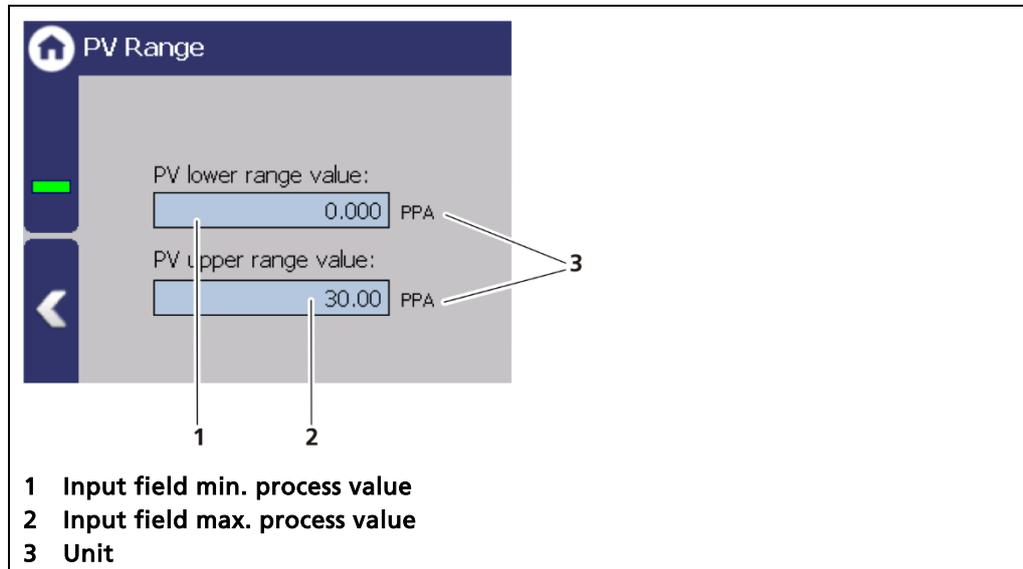

Fig. 34 Basic Setup Menu "PV Range"
1. Click on the input box (Fig. 34, item 1) to enter the process value that is intended to correspond to an output current of 0/4 mA.
3. Click on the input box (Fig. 34, item 2) to enter the process value that is intended to correspond to an output current of 20 mA.